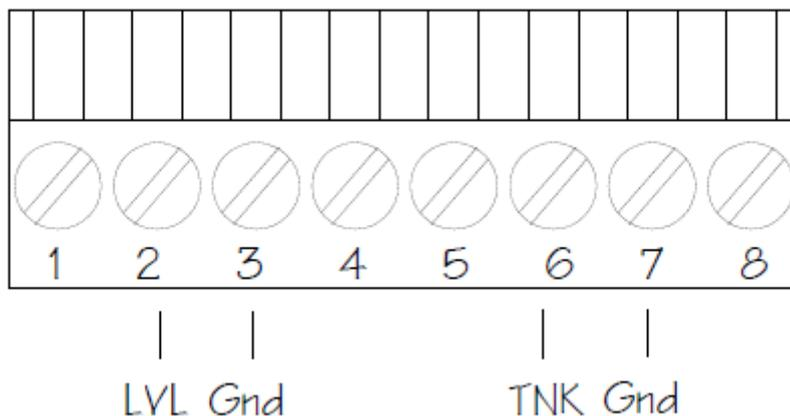

Figure 1
- 5) Connect the cable wires to the C100XT by sliding them into terminal screws 2 and 3 (See Figure 1) on the 8-pin connector, then tightening the screws.